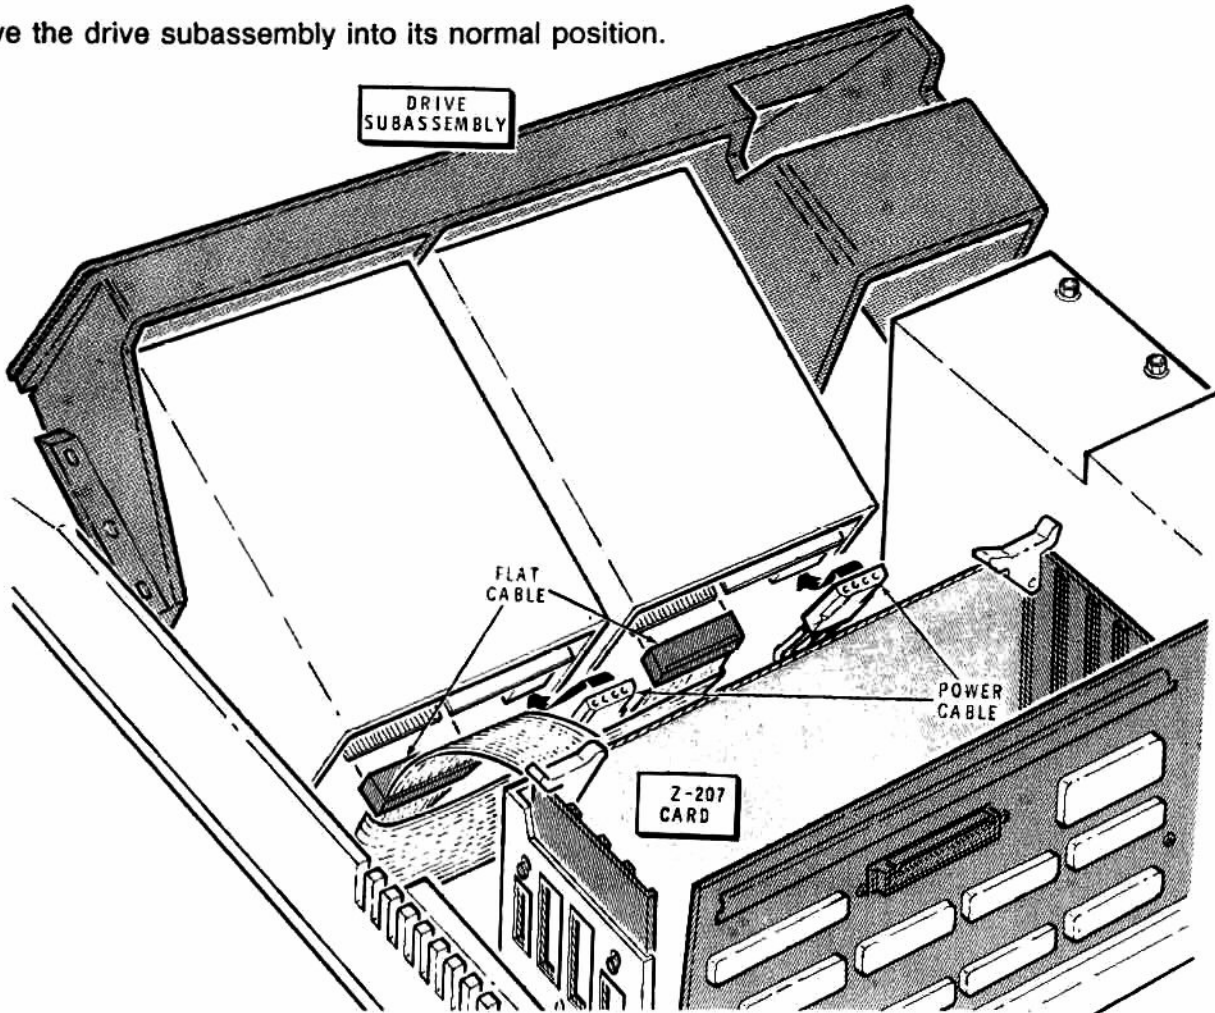

Figure 2.16. Drive Subassembly Installation
- Refer to Figure 2.16 and position the drive subassembly about 2 inches in front of its normal position on the base.